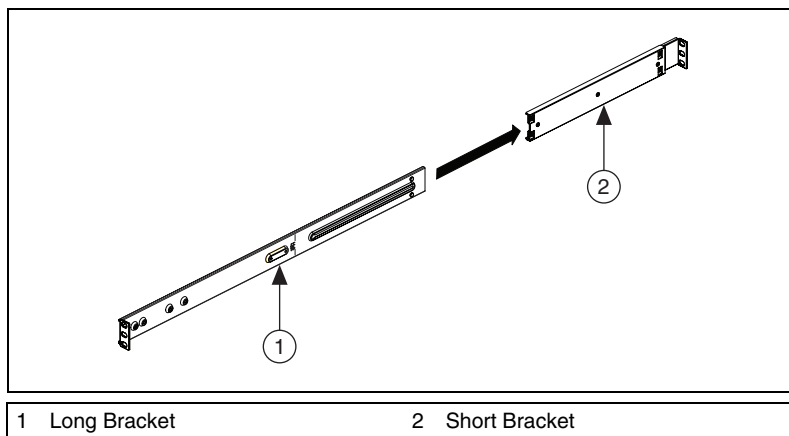

Figure 2-2. Installing Outer Slides
2. Attach a short bracket to the rear of the right outer slide and a long bracket to the front of the right outer slide, as shown in Figure 2-2.